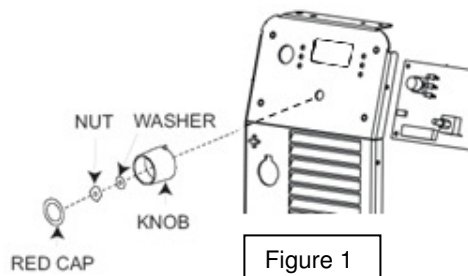

Figure 1
1. Using a thin knife blade, remove the red plastic cap on the end of the output knob, see **Figure 1**.
2. Using a 6mm nutdriver, remove the output knob mounting nut and washer located behind the red plastic cap previously removed, See **Figure 1**.